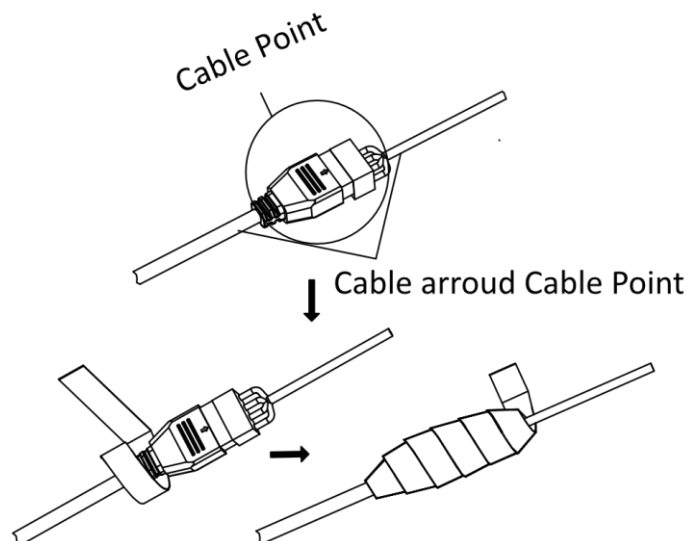

Figure 3-2 Wrapped Waterproof Tape
Step 3 After stretching, the waterproof tape is tightly wound on the terminal and the nearby cables in a half-lap way until the terminal and the nearby cables are wrapped in the waterproof tape. Please pay attention to keep the waterproof tape taut during the winding process, as shown in Figure 3-2.